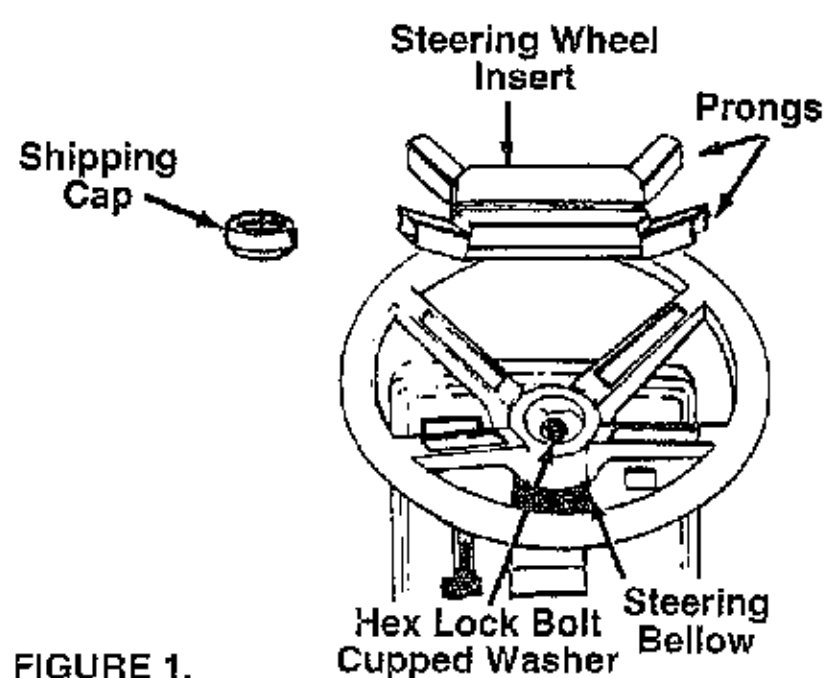

FIGURE 1.
2. Remove the steering bellow from the lift lever on the right hand side of tractor. Place steering bellow over the steering shaft extending through the dash. See figure 1.